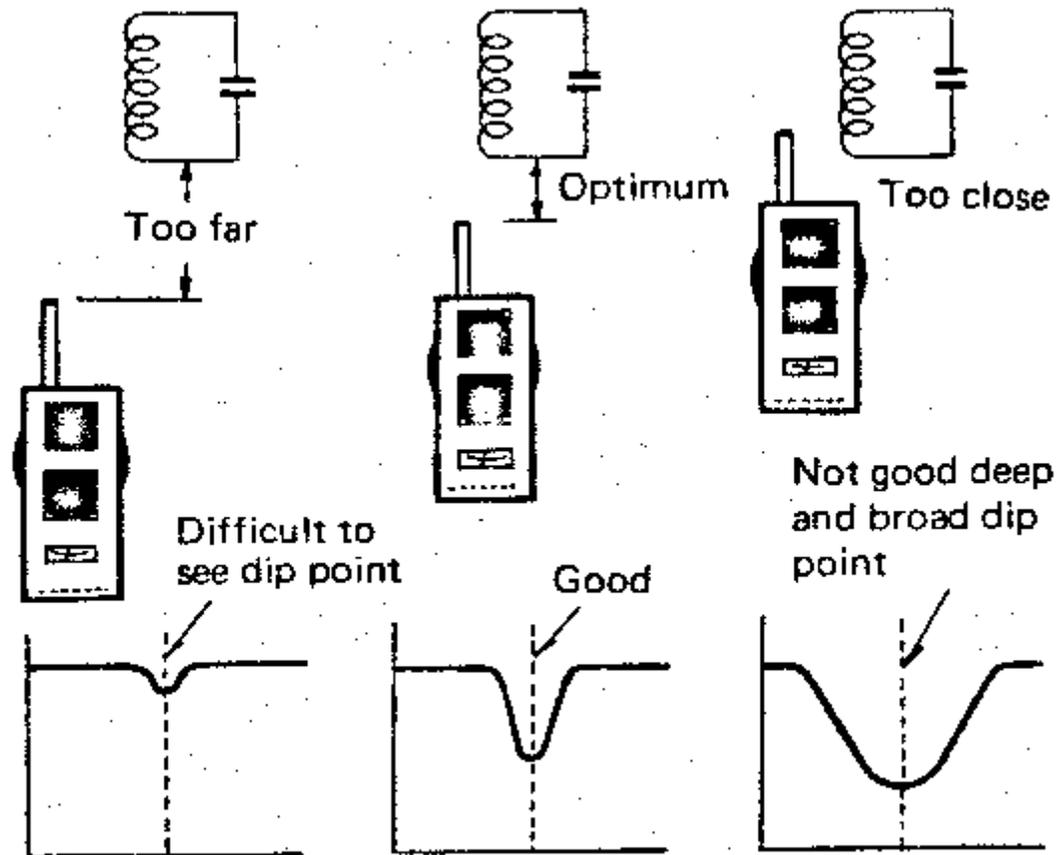

Figure 3 – Distance Adjustment for Accurate Dip Point
6. Bring the dip meter coil about 1 cm from the tuned circuit to be measured and slowly turn the dial. The oscillator signal energy will be absorbed by the tuned circuit at the resonant point and the meter will dip abruptly. See Figure 3.